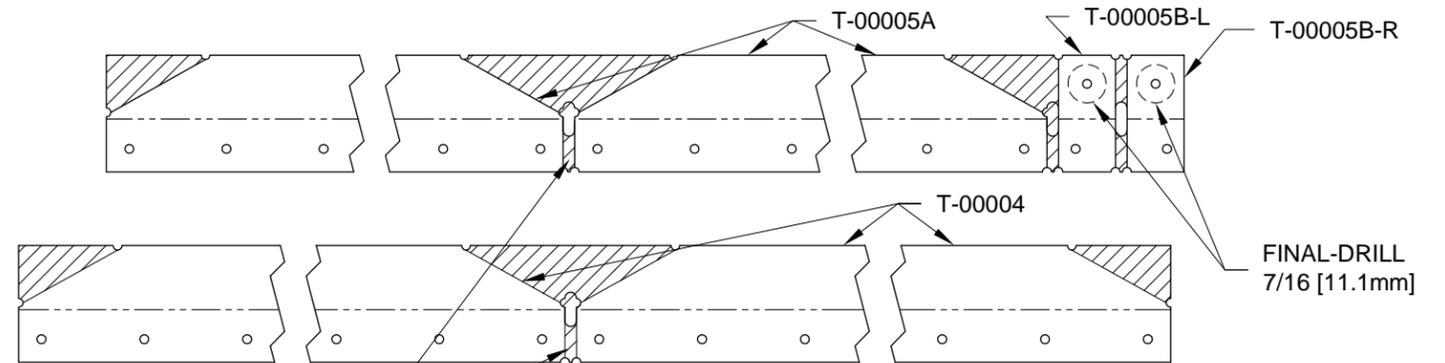

FIGURE 2: TANK STIFFENER TRIM DIAGRAM (SHOWN FLAT FOR CLARITY)
Step 7: Final-Drill 7/16 [11.1mm] the T-00005 Tank Stiffener in the two locations shown in Figure 2.
Separate the T-00005 Tank Stiffener into two T-00005A Tank Stiffeners and two T-00005B Vent Line Clips as shown in Figure 2.
Step 8: Separate the T-00004 Tank Stiffeners and trim as shown in Figure 2.